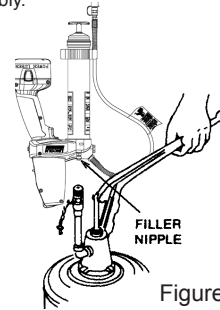

Figure 4
2. Insert the gun vent/bulk fill valve into the filler pump socket (see Fig. 4).